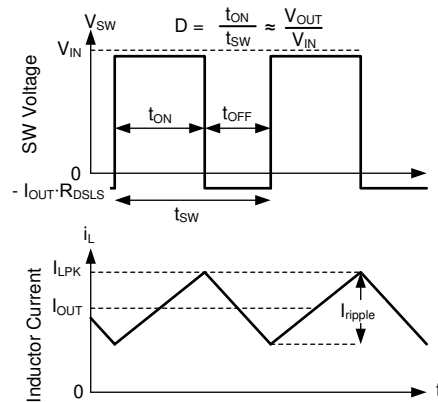

図 8-16. SW Voltage and Inductor Current Waveforms in Continuous Conduction Mode (CCM)
The following operating description of the LM61460 refers to セクション 8.2 and to the waveforms in 図 8-16. In CCM, the LM61460 supplies a regulated output voltage by turning on the internal high-side (HS) and low-side (LS) NMOS switches with varying duty cycle (D). During the HS switch on-time, the SW pin voltage, V_{SW} , swings up to approximately V_{IN} , and the inductor current, i_L , increases with a linear slope. The HS switch is turned off by the control logic. During the HS switch off time, t_{OFF} , the LS switch is turned on. Inductor current discharges through the LS switch, which forces the V_{SW} to swing below ground by the voltage drop across the LS switch. The converter loop adjusts the duty cycle to maintain a constant output voltage. D is defined by the on-time of the HS switch over the switching period: